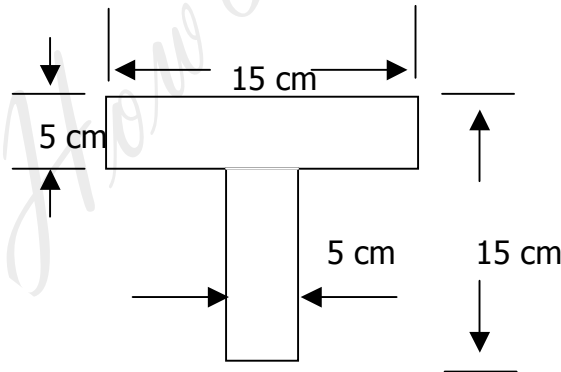

Figure 4.1
- Calculate the moment of inertia of a T-section about the horizontal and vertical axis passing through a centre of gravity of a section as shown in Figure 4.1.